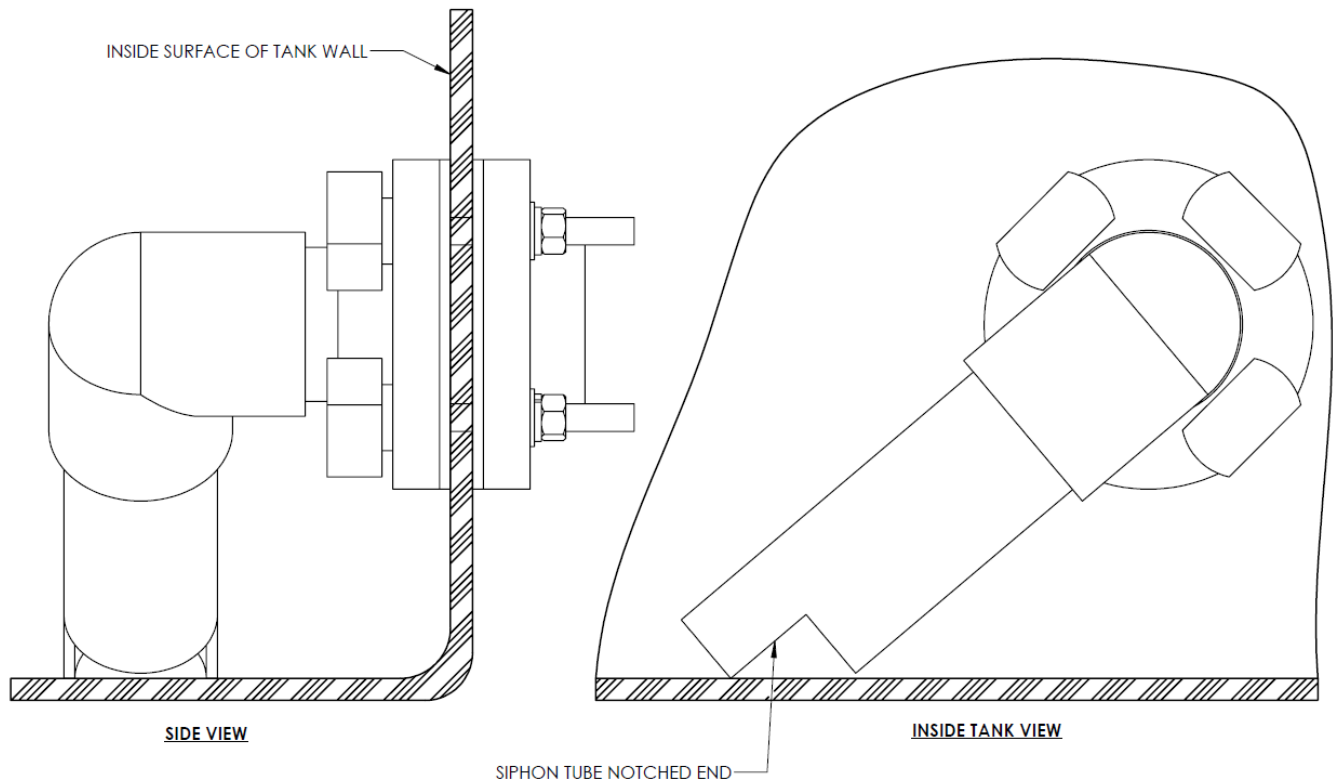

Figure 6.6
6.6.3 Siphon tubes should be located with the cut notch corner in close proximity of the floor of the tank for maximum drainage, and the siphon tube tilted to the side of the fitting. Refer to Figure 6.6 for proper placement of the siphon tube in the tank.